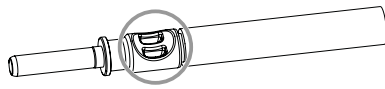

Fig. 6:
4. Crimp contact and cable (if necessary including the reducing bushing) as shown in *Fig. 6*.